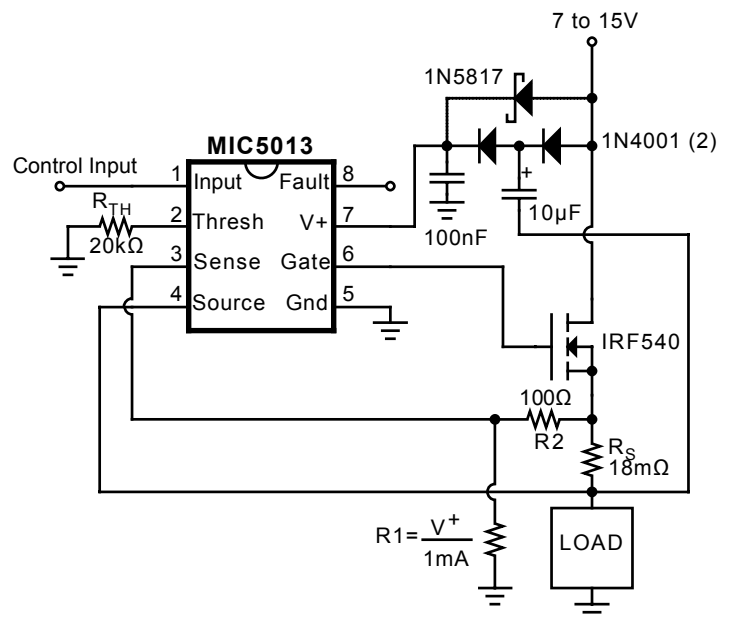

Figure 6. Bootstrapped High-Side Driver
**Bootstrapped High-Side Driver** (Figure 6). The speed of a high-side driver can be increased to better than 10μs by bootstrapping the supply off of the MOSFET source. This topology can be used where the load is pulse-width modulated (100Hz to 20kHz), or where it is energized
The top-side driver is based on the bootstrapped circuit of Figure 6, and cannot be switched on indefinitely. The bootstrap capacitor ( $1\mu\text{F}$ ) relies on being pulled to ground by the bottom-side output to recharge. This limits the maximum duty cycle to slightly less than 100%.